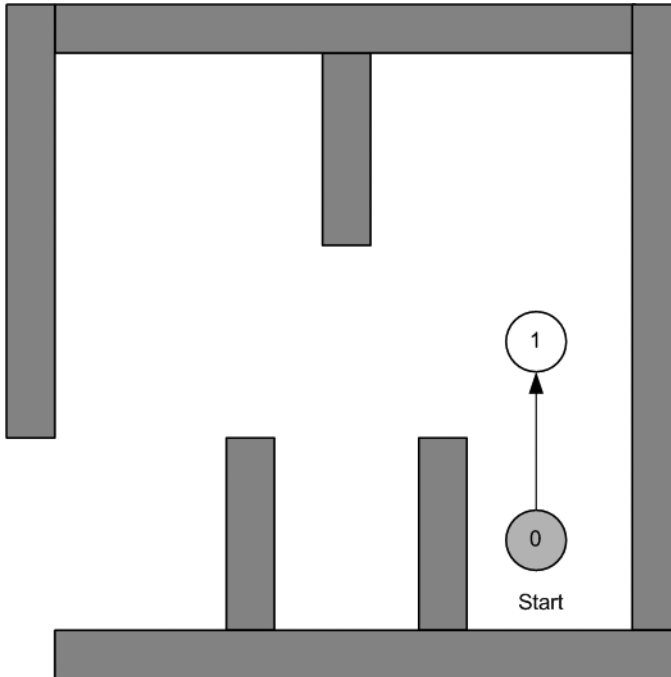

Figure 9-5. *The robot at its start position in a simple maze.*
3. Based on these characteristics, the robot creates adjacent regions, where there is room to move (as shown in Figure 9-5).